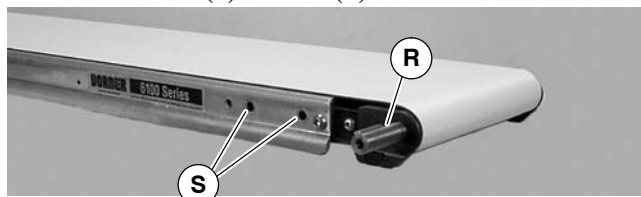

Figure 11
4. Locate drive output shaft (R of Figure 11) and remove two (2) screws (S).